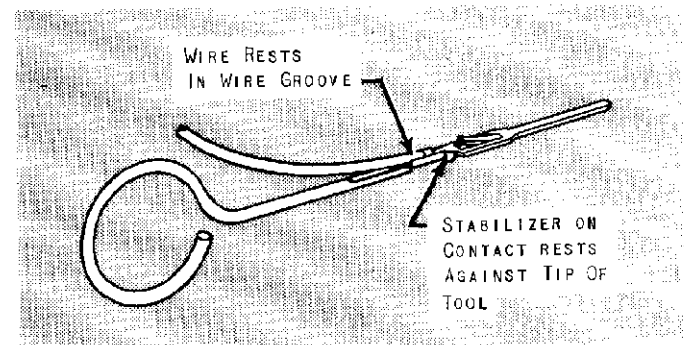

Fig. 3
- To insert Crimp-on, Snap-in, Wrap-Type Contacts, Stabilizer on Contact rests against Tip of Tool. See Figure 3.